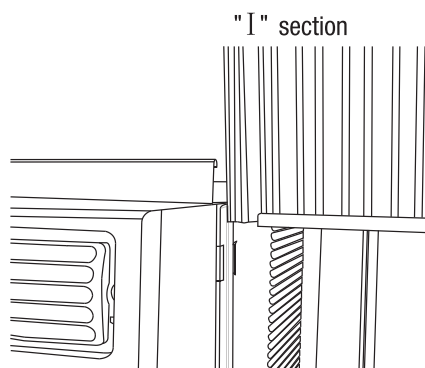

Fig. 2
- C. Slide the free end "I" section of the panel directly into the cabinet as shown in Fig. 2. Slide the panel down. Be sure to leave enough space to slip the top and bottom of the frame into the rails on the cabinet.